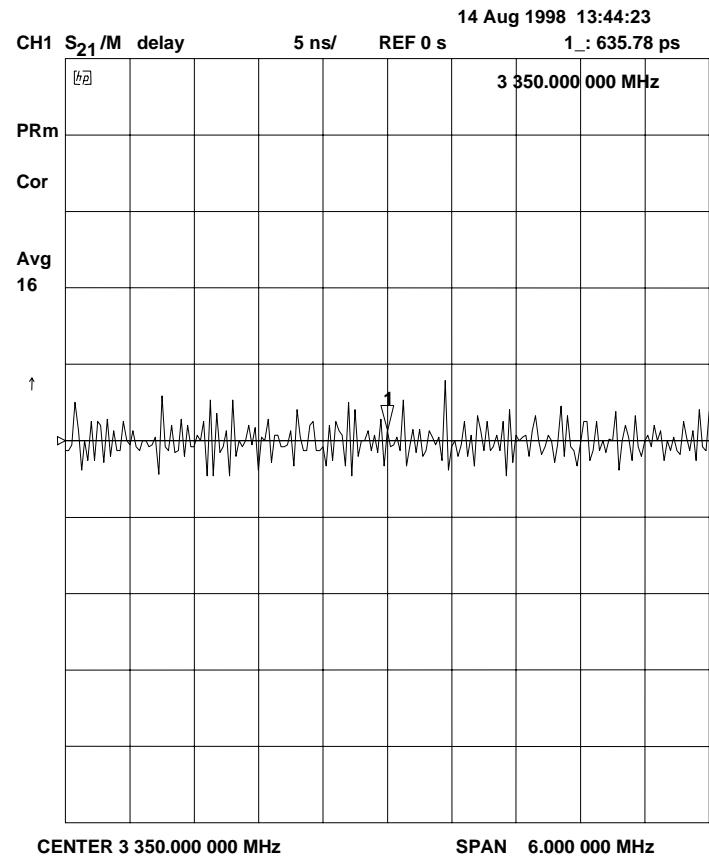

Figure 3. Channel 1 Path 2 Delay Alignment
6. Set the 8753D format to Delay, use the "autoscale" function to adjust measurement range and resolution. Adjust the path delay setting of Channel 1 Path 2 (next path) on the 4500 FLEX until the 8753D reads less than 1 nsec (Figure 3). Record this delay setting is the delay offset for Channel 1 Path 2 (next path).